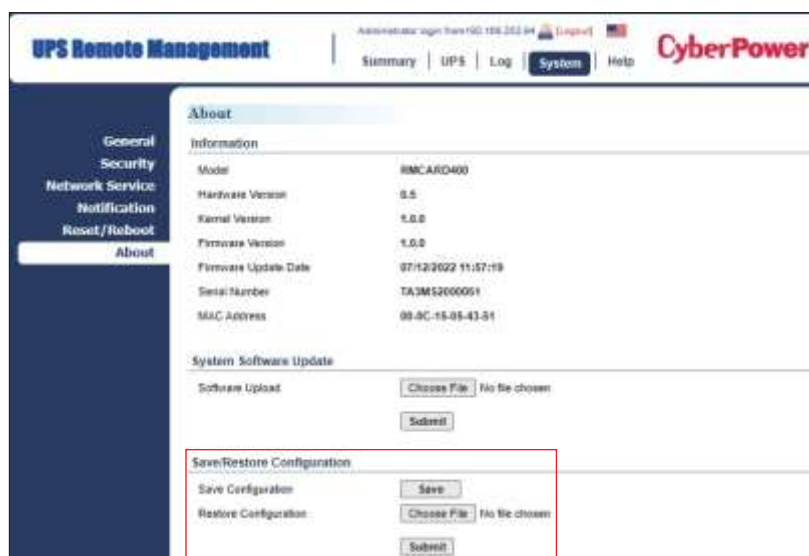

Figure 8. Firmware Update in the main window.
2. Select the Firmware and click “Submit” to implement firmware upgrade, as shown in Figure 8.